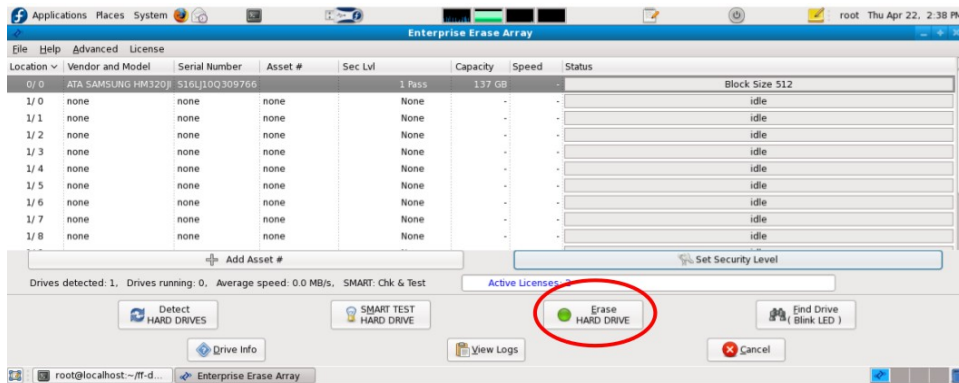

Figure 3.4 – Location of Erase Button on Main User Interface Screen
3.5 To begin the erasure process on the selected drive, press the button at the bottom of the main user interface screen labeled “Erase Hard Drive”. Figure 3.4 shows the location of this button.